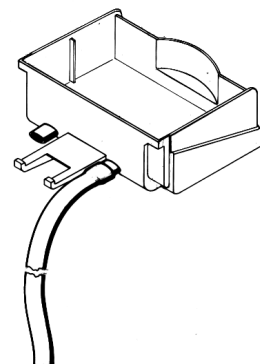

figure 1
- 7 Each drip tray has two diaphragm plugs: if a continuous drain is needed, perforate one of the drain plugs and connect it to a flexible drain line (see figure 1).